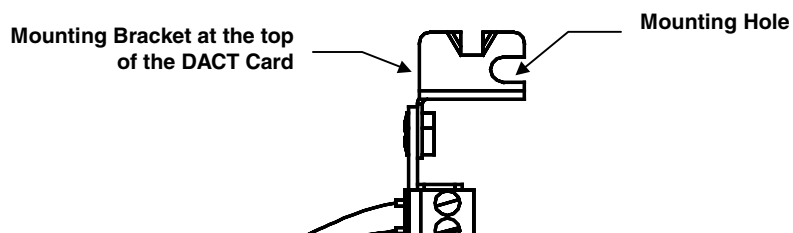

Figure 6. Option Card Mounting Bracket
4. Using the screw and lockwasher provided, secure the mounting bracket to the system chassis (see Figure 6).